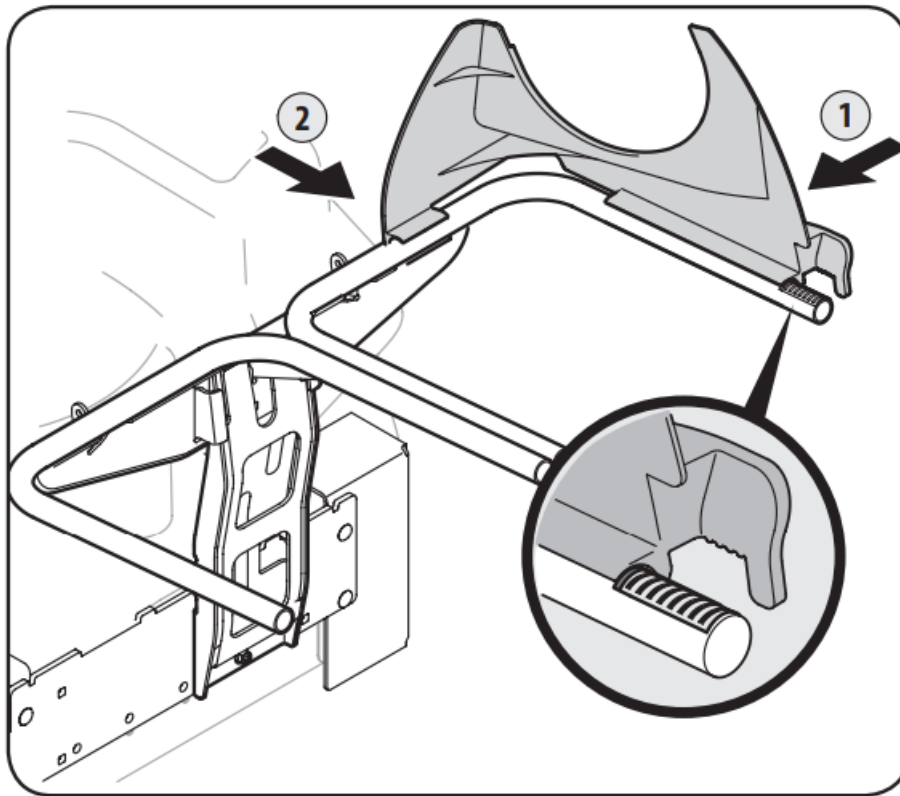

Figure 4-6
7. Snap the plastic upper chute support in place by first clipping the side portion onto the bagger support rail (1) with the edge of the snap feature aligned with the line on the label, as shown in the inset of Figure 4-6.
8. Snap the front side of the chute support to the rail (2), as shown in Figure 4-6.